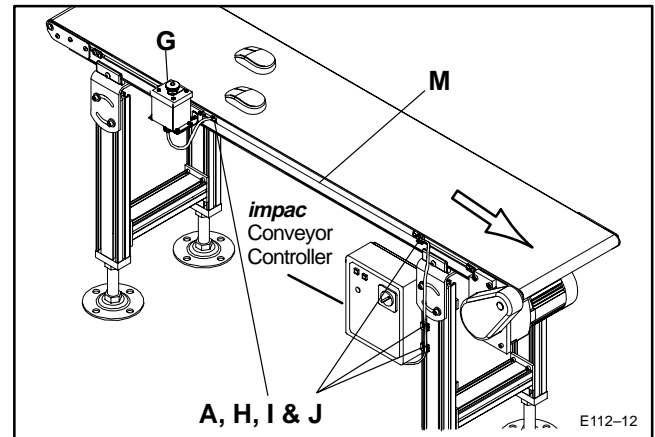

Figure 12: E-Stop Cable Routing to *impac* Conveyor Controller
- Figure 12 shows a typical wire routing of a E-Stop connection to an *impac* Conveyor Controller using the Conveyor's T-slot with both T-slot Cover Strips and Zip Ties (J).
- c. Shown here is an application using an E-Stop to stop a conveyor (Figure 12).